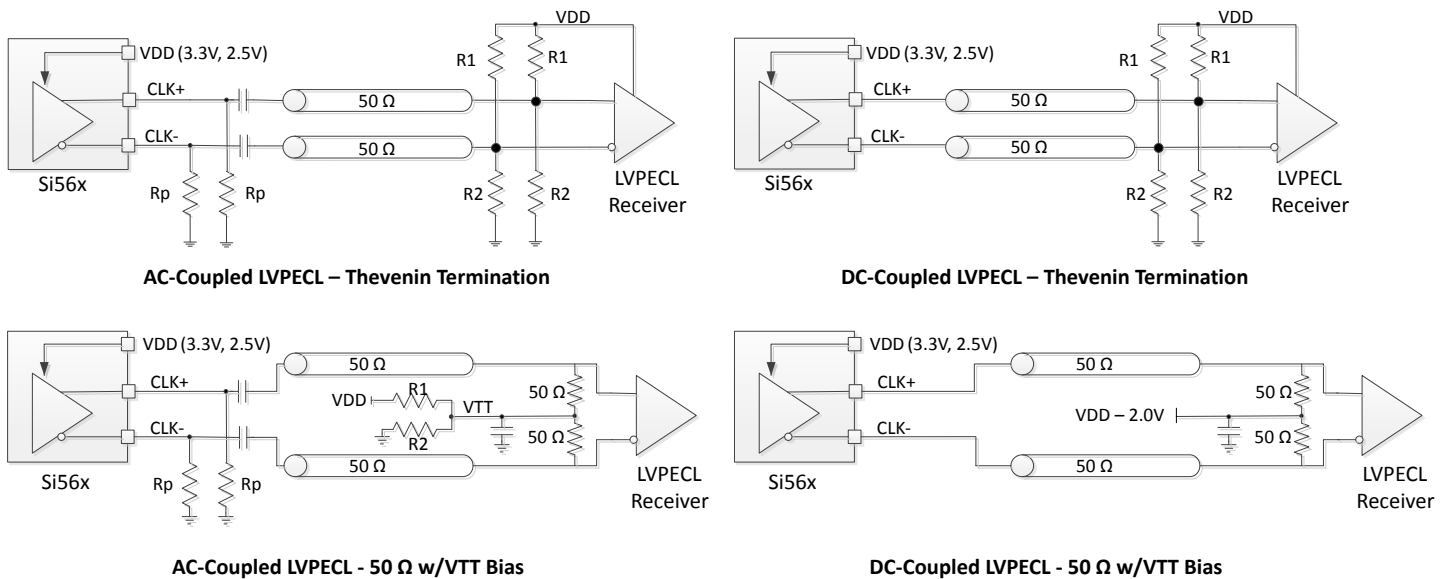

Figure 4.1. LVPECL Output Terminations
- Rterm = 50 Ω to VDD – 2.0 V (see Figure 4.1). Additional DC current from the output driver will flow through the 50 Ω resistors, resulting in a shift in common mode voltage. The measurements in this table have accounted for this.